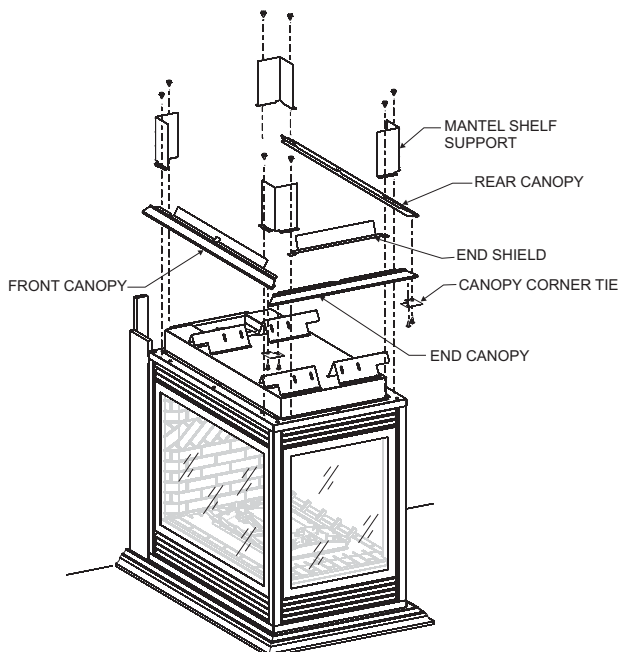
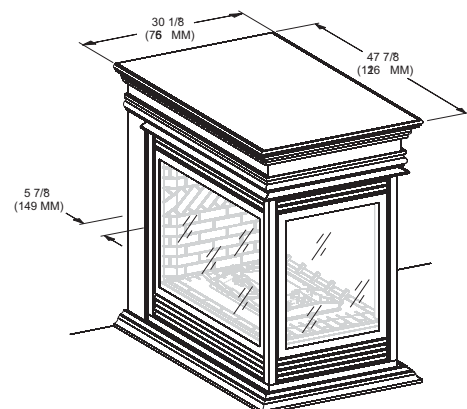

Figure 5
Figure 7
1. Install (2) of the Mantel Corner Brackets at the vent end corners first. Loosely attach each bracket with one #10 x 1/2" Hex Head screw through the rear flange and into the pilot hole on top of the fireplace. See Figure 5.
Figures 5 and 6 show placement of the corner brackets, canopies, and the end shield. Figure 7 shows a finished view of the fireplace mantel, top and base.